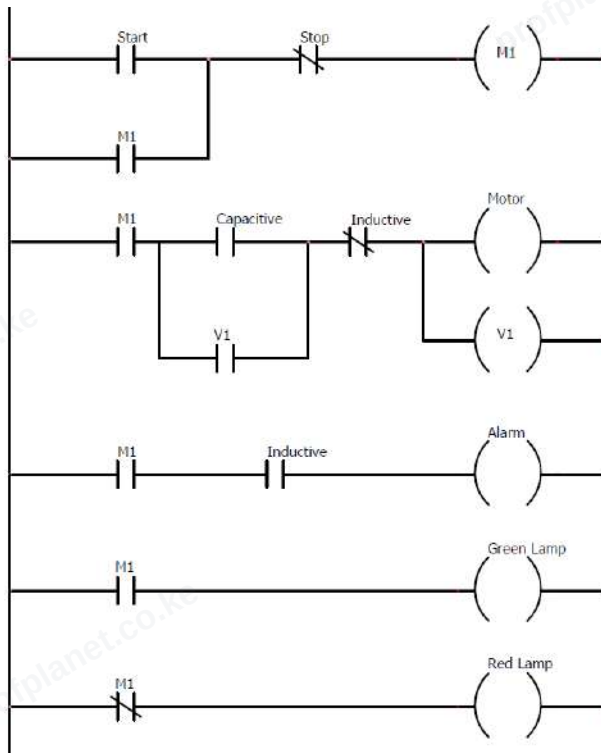

Figure 2: PLC Program
- a) A Start and stop push button are included for manual control. A green indicator lamp turns ON when the system is started, and a red lamp lights up when the system is stopped. A pre-written PLC program is provided in Figure 2.
6. Connect to the PLC using the provided appropriate software. Enter the given program in Figure 2 using **correct addressing as per your wiring** and download it to the PLC. Confirm the program is correctly downloaded.